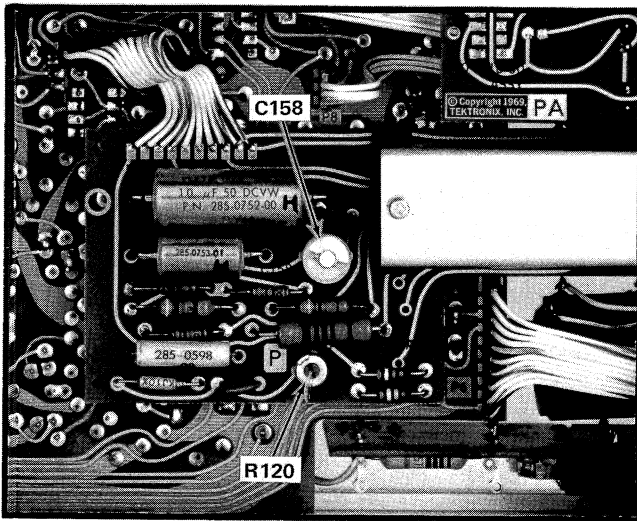

Fig. 5-7. Location of C158 and R120.
f. ADJUST—C158 (Fig. 5-7 for location) to align end of pulse with time mark. Measure Pulse duration at 50% amplitude points.
c. ADJUST—R120 (Fig. 5-7 for location) to align the end of the Pulse to the time mark. Measure Pulse duration at 50% amplitude points.